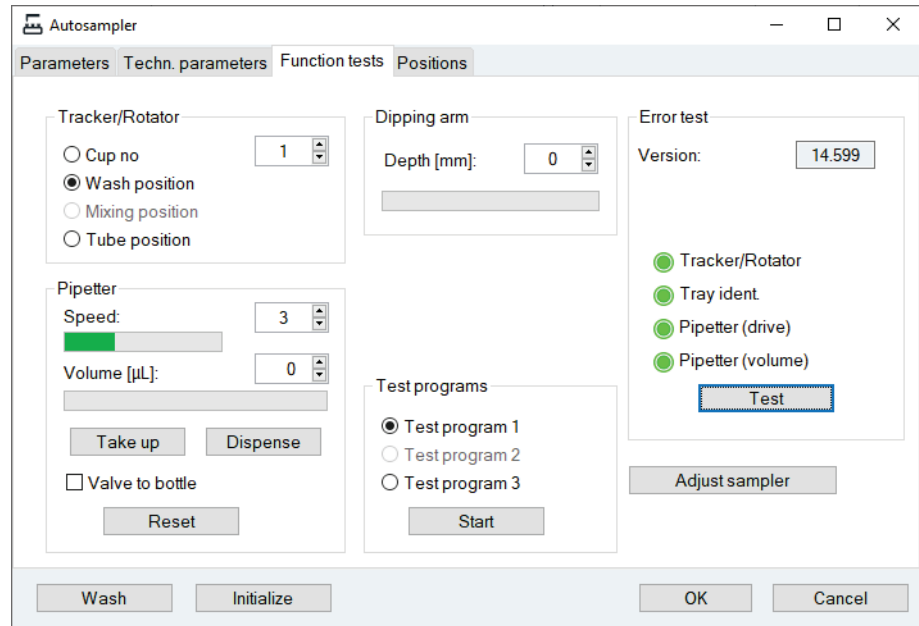

Fig. 64 Window "Autosampler/Function tests"
3. In ASpect LS open the window AUTOSAMPLER with . Change to the tab FUNCTION TESTS (Fig. 64).